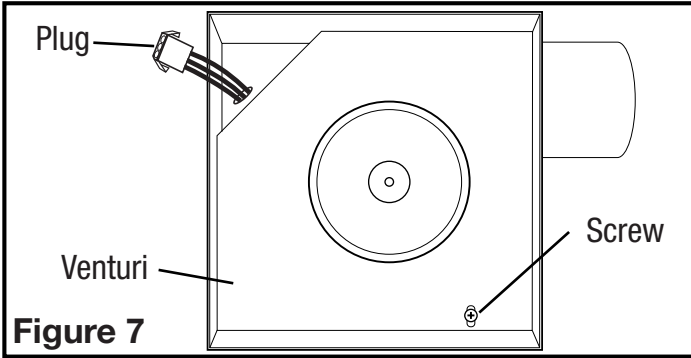
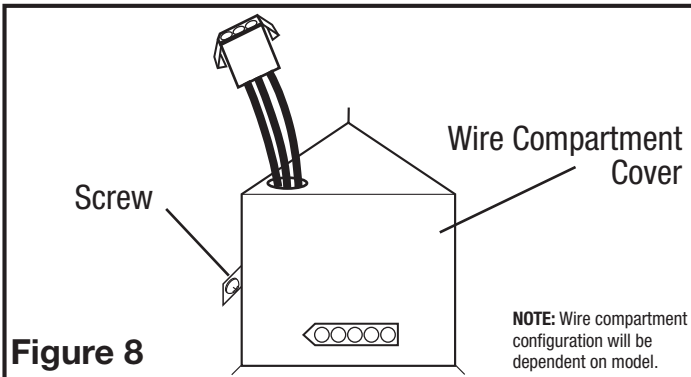

Figure 7
Figure 8
- 1b. **Internal Wire Compartment:** Remove the screw holding the blower assembly in place and lift assembly out of housing (Figure 7). Remove the wire compartment cover screw and place the cover in a secure place (Figure 8).